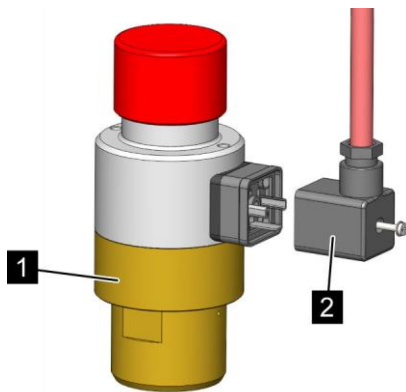

Fig. 174: Check the activation
4. ➔ Connect the electrical release device (Fig. 174/1) on the plug (Fig. 174/2).